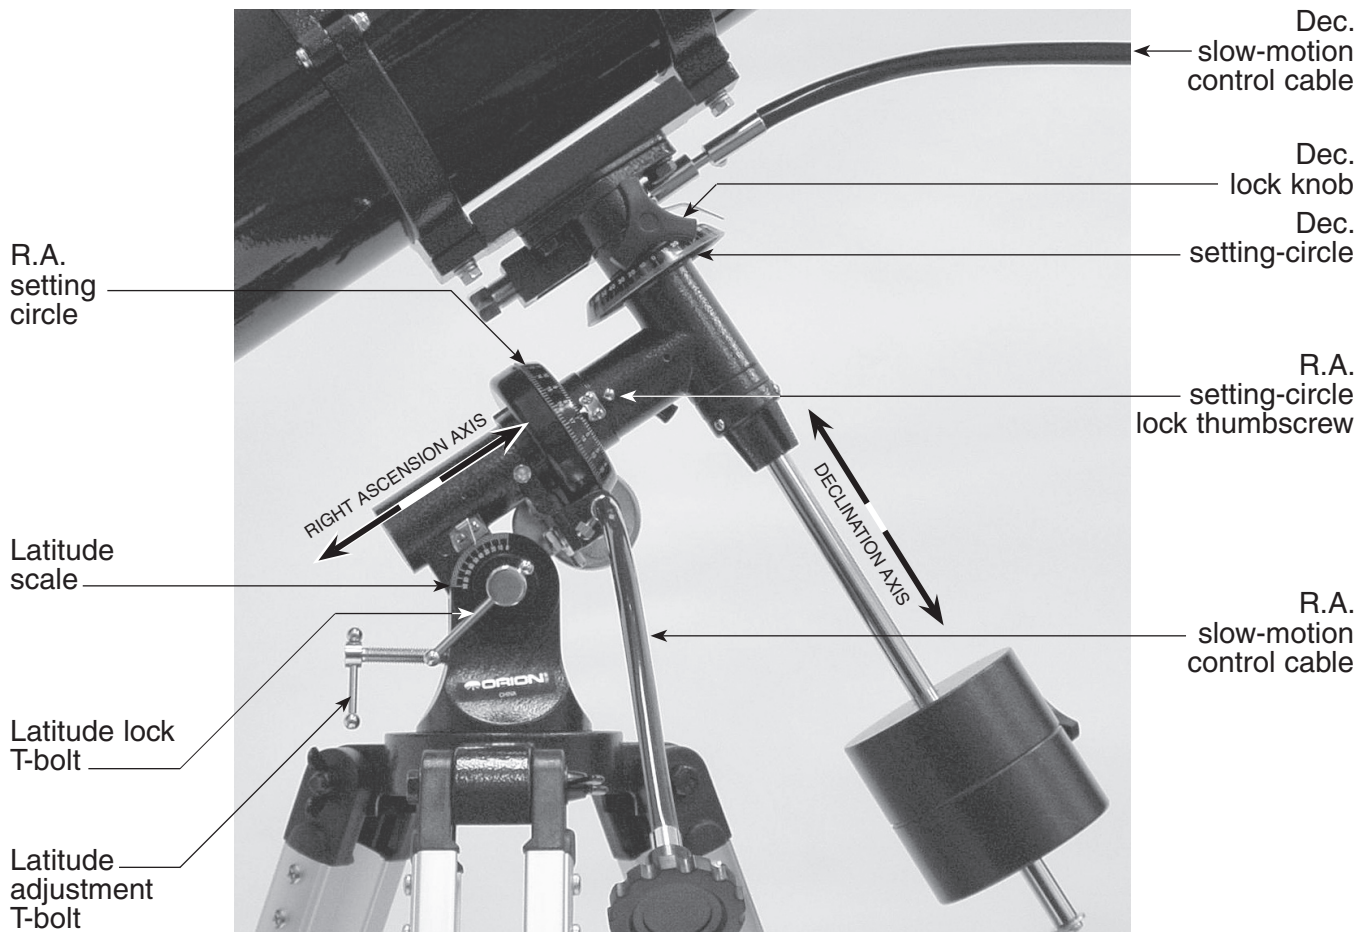

Figure 2. The SpaceProbe 130's equatorial mount.
4. Orient the equatorial mount as it appears in Figure 2, at a latitude of about 40°, i.e., so the pointer next to the latitude scale (located directly above the latitude lock T-bolt) is pointing to the mark at "40." To do this, loosen the latitude lock T-bolt, and turn the latitude adjustment T-bolt until the pointer and the "40" line up. Then retighten the latitude lock T-bolt. The declination (Dec.) and right ascension (R.A.) axes may need re-positioning (rotation) as well. Be sure to loosen the RA and Dec. lock knobs before doing this. Retighten the R.A. and Dec. lock knobs once the equatorial mount is properly oriented.
When you look at the night sky, you no doubt have noticed that the stars appear to move slowly from east to west over time. That apparent motion is caused by the Earth’s rotation (from west to east). An equatorial mount (Figure 2) is designed to compensate for that motion, allowing you to easily “track” the movement of astronomical objects, thereby keeping them from drifting out of the telescope’s field of view while you’re observing.